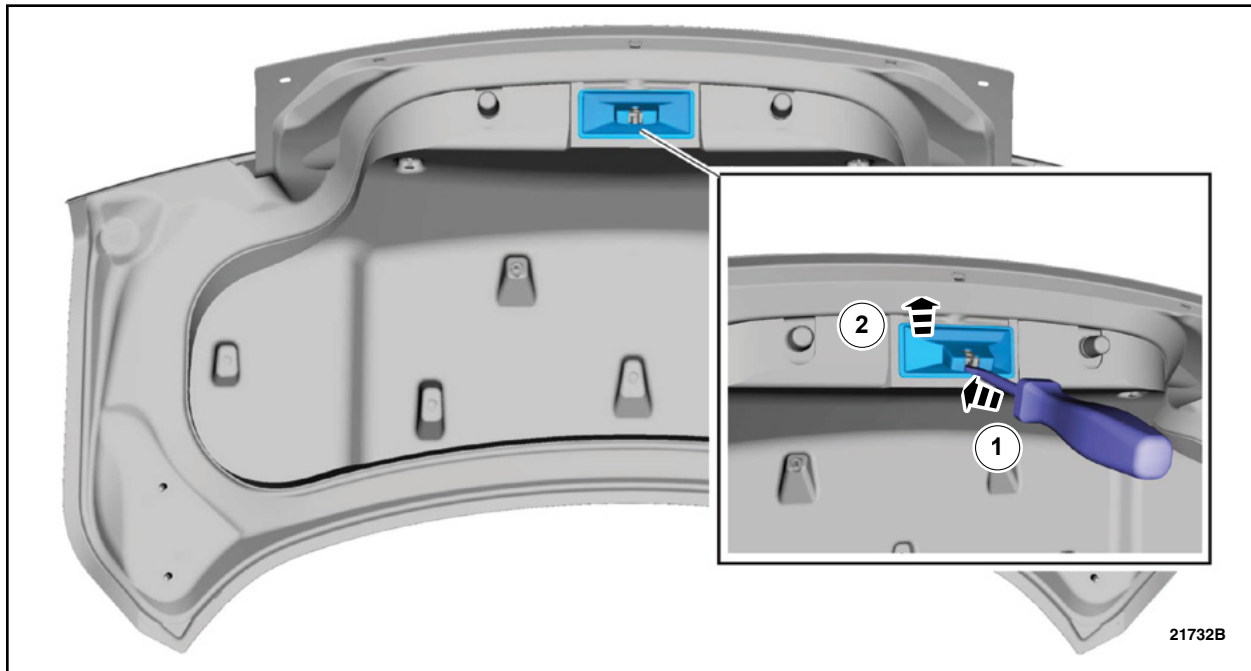

FIGURE 29
41. Remove the luggage compartment lid latch cover. See Figure 29.